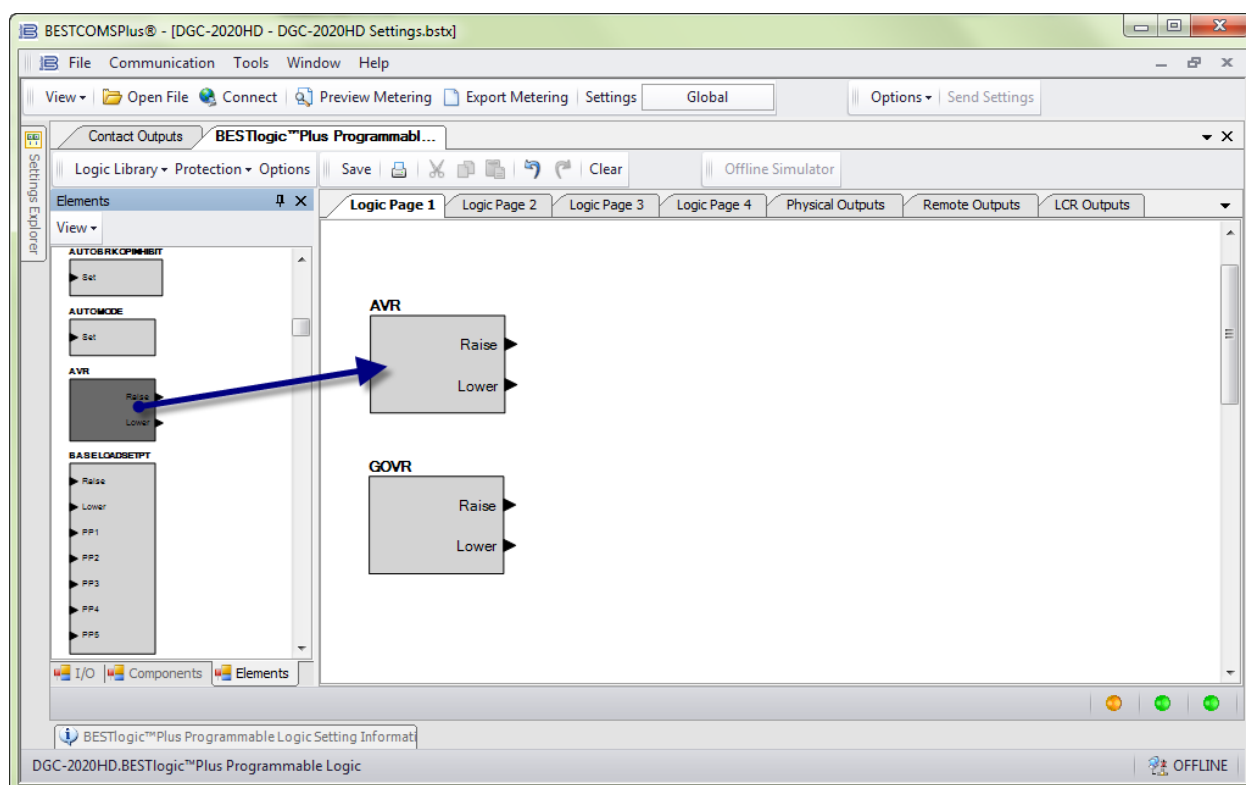

Figure 126. Contact Output Bias Control Setup, Step 3.
3. In BESTlogicPlus Programmable Logic, click on the Elements tab and drag the AVR and GOVR elements into the main logic screen. See Figure 126.